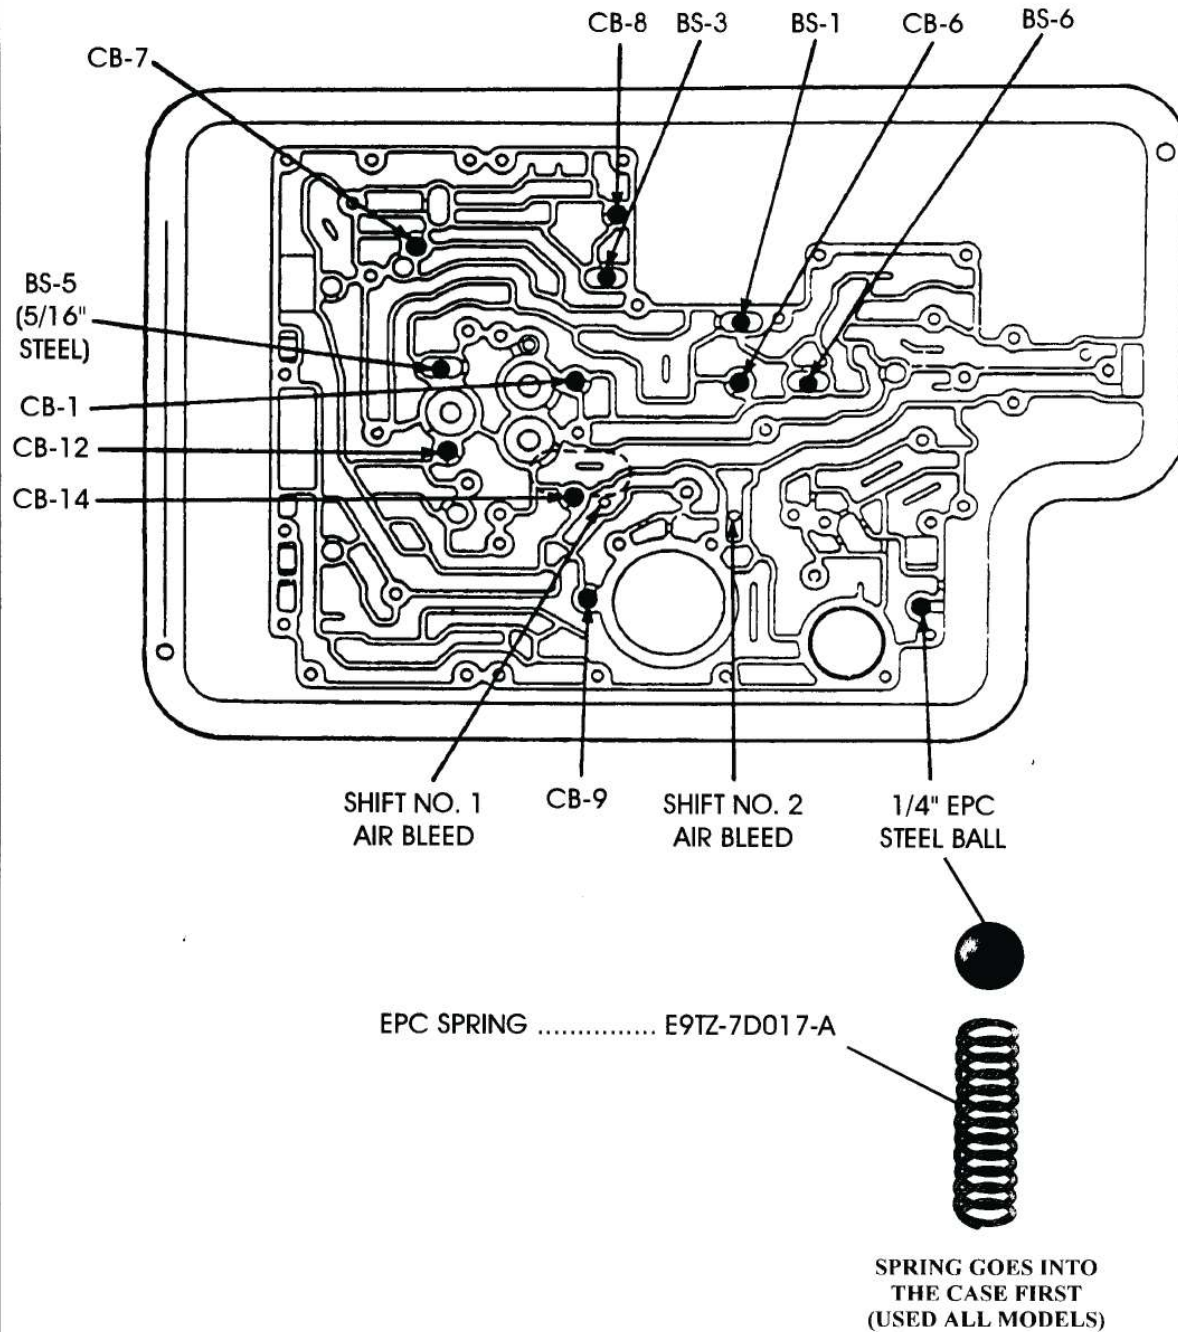

Figure 4
- Late 1989 Models** - Requires **Ten** 5/16" rubber checkballs, and **One** 5/16" diameter steel checkball, for a total of **Eleven**, in the locations shown in Figure 4, and uses a 1/4" steel ball for the EPC blow-off, and the location is shown in Figure 4.